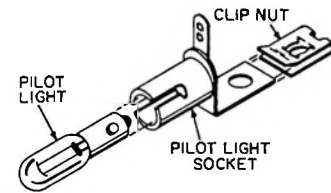

FIGURE 9. PILOT LIGHT ASSEMBLY
- Pilot light socket, pilot light and a large clip nut. Assemble as shown in Figure 9.